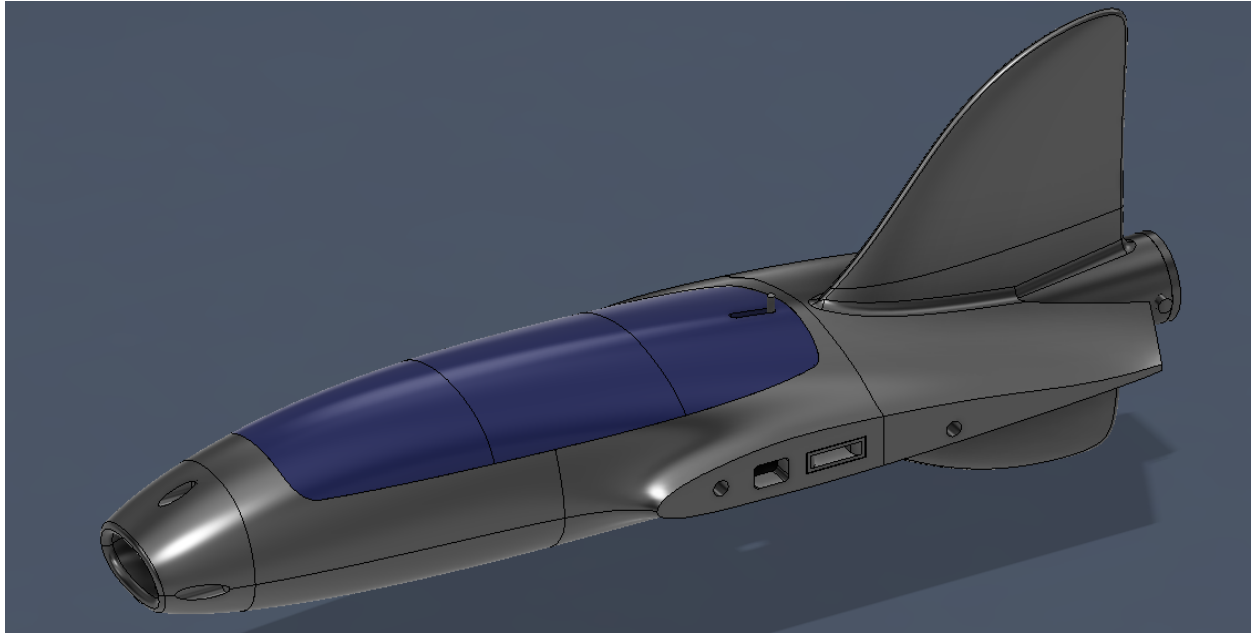

Figure 13: Finished fuselage
The fuselage assembly is now complete as seen on figure 13. All components, including **Fus (1) through Fus (4), the pins, filament inserts, canopy, battery holder, motor holder, and hatch**, have been properly secured with screws and glued where needed, resulting in a fully assembled fuselage ready for the next stage.